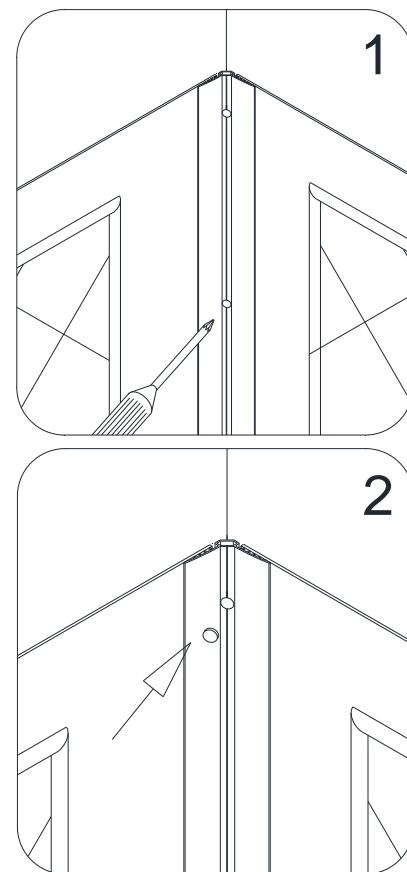

Fig. 24
See Fig. 24 for details.
25. Mark the location for the **Shelf brackets (04)** according to the measurements in Fig. 24 and Fig. 25.1.